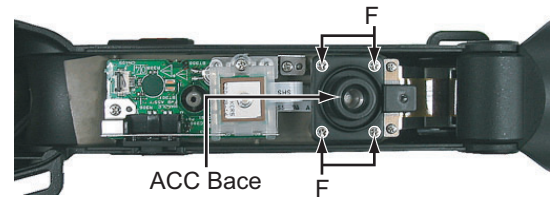

Fig.7
3.4.3 Removing the VF unit (See Figure 7, 8 and 9)